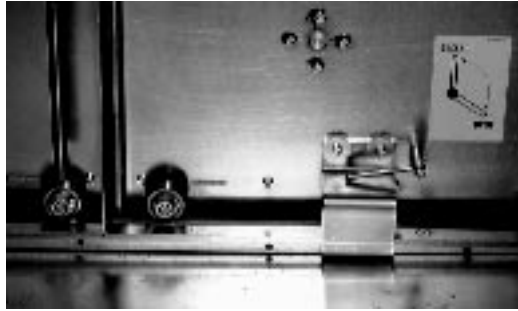

Figure 325. Backup Roll Pressure Handle
10. Rotate the backup roll pressure handle, as shown in Figure 325 on page 334, counter-clockwise to enable the speed roll drive to pull the paper.